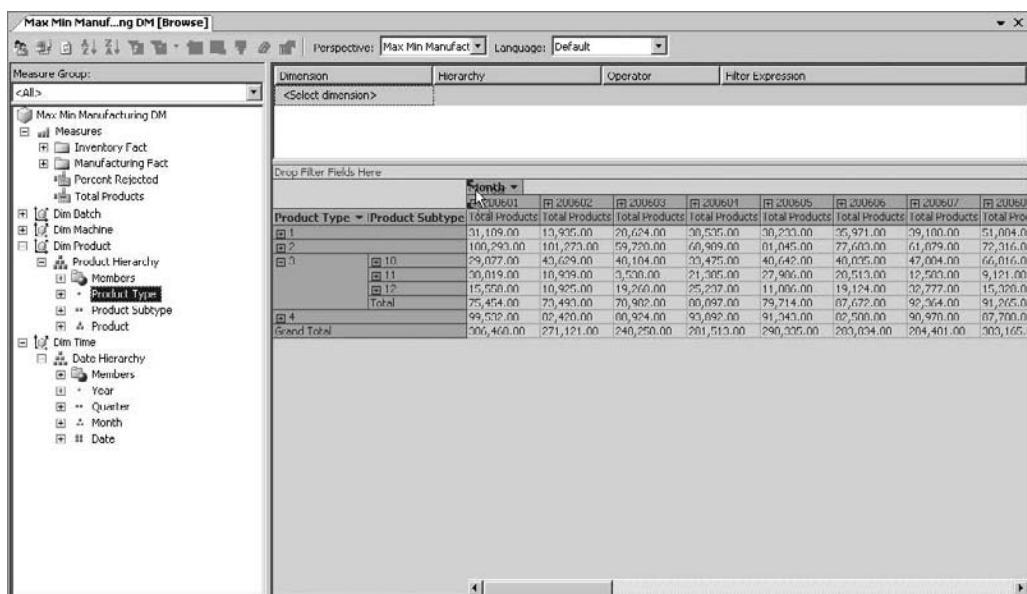
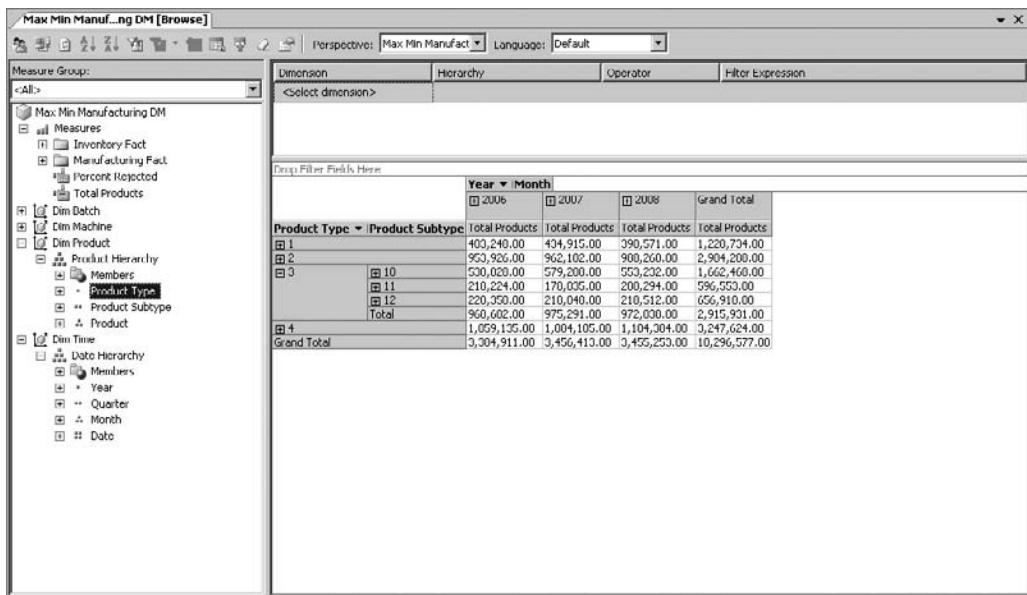

Figure 10-6 Adding a column level to the Browse window
Figure 10-7 Two levels of rows and columns in the Browse window
17. Drag the Year level and drop it to the left of the Month heading in the pivot table. This is shown in Figure 10-6. This creates a higher level in the pivot table columns. Expand 2006 to view its months. This is shown in Figure 10-7.